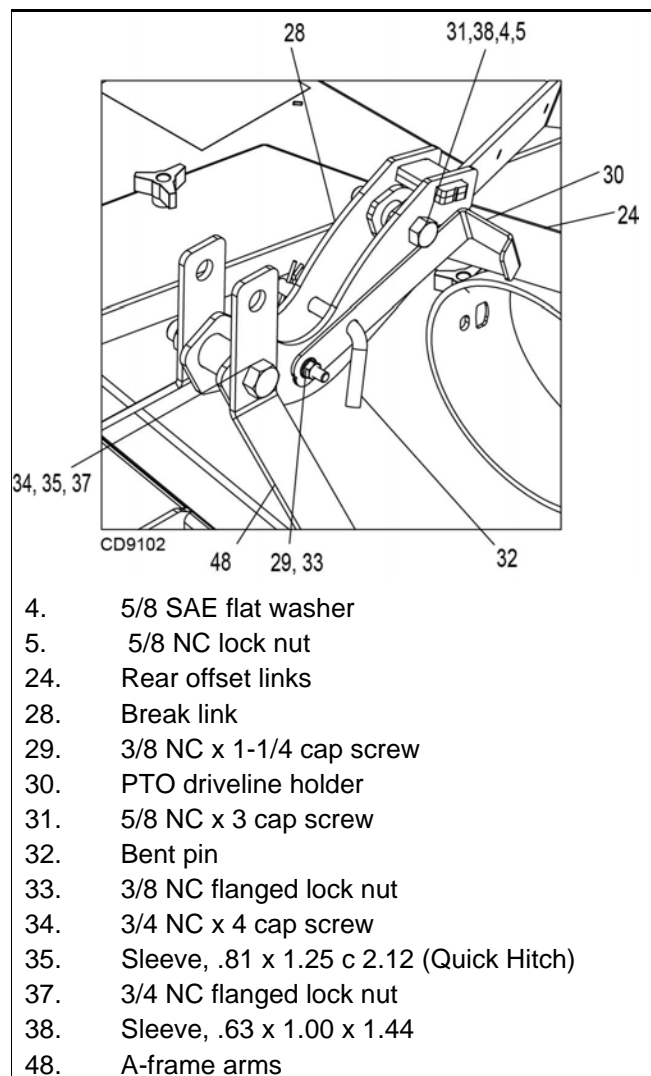

Figure 33. Break Link Installed
4. Install break link (28) to a-frame arms (48) using 3/4 cap screws (34), bushing (35), and 3/4 flanged lock nut (37). Tighten hardware then back off until break link relaxes to allow quick hitch hook to fit inside. Break link should pivot freely. See Figure 33.
5. Install sleeve (38) through hole in pointed ends of offset links. Connect rear of break link (28) to rear offset links (24) with 5/8 cap screw (31), flat washer (4), and 5/8 lock nut (5). Tighten hardware then back cap screw off one quarter turn. Break link should pivot freely on rear offset links. See Figure 33
6. Install PTO driveline holder (30) to left side of break link (28), facing out, using 3/8 cap screw (29) and 3/8 flanged lock nut (33). Tighten nut until it contacts drive holder, then back off 1/2 turn so drive holder swings freely. Let drive holder (30) hang to receive driveline. Install 1/2" bent pin (32) through holes in break link (28) and rear offset links (24) and retain with hairpin. This will prevent hitch from accidentally collapsing if pressure is applied to a-frame arms."
7. Install manual tube (27) on left side lift link using 5/16 carriage bolts (26) and 5/16 whiz nuts (25).